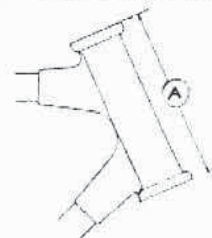

Fig. 1.
- Overall length of Ball Race Head, see " A. " in Fig. 1. below.....